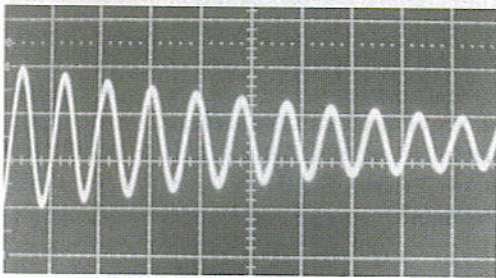

Figure 9. Damped self-resonant oscillations.
**Figure 9** shows a measurement made using the previously calculated resonant circuit. What is important is to affect the circuit as little as possible. This means you should use a 10:1 probe with an internal impedance of 10 M $\Omega$ . The figure shows the result of a measurement made with a horizontal deflection factor of 1  $\mu$ s/division. The measured frequency is slightly greater than 1100 kHz.